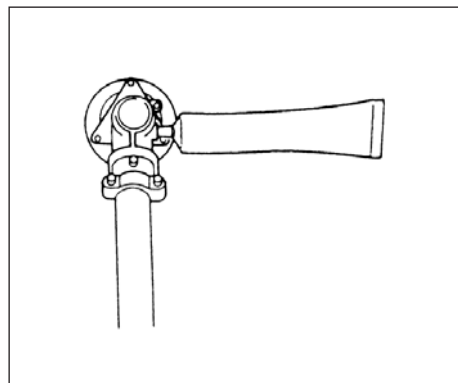

Fig.3-5
**Angle transmission (Fig.3-5)**